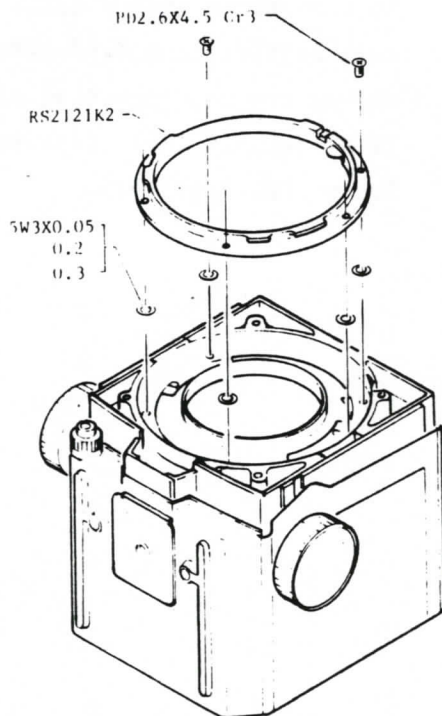

Fig. 51
2. Measure the parallelism at four corners. Parallelism at four corners shall be less than 0.1mm. Use Washer to adjust parallelism. (5W3x0.05, 0.2 and 0.3) as shown in Fig. 51, 52.